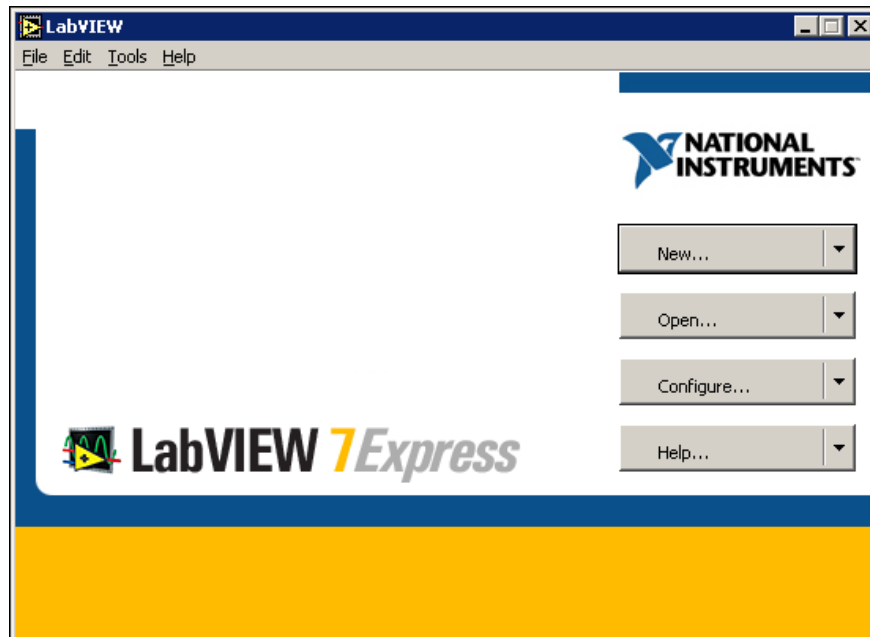

Figure 1.18
2. In the LabVIEW dialog box that appears, shown in Figure 1.18, click the New button to display the New dialog box.